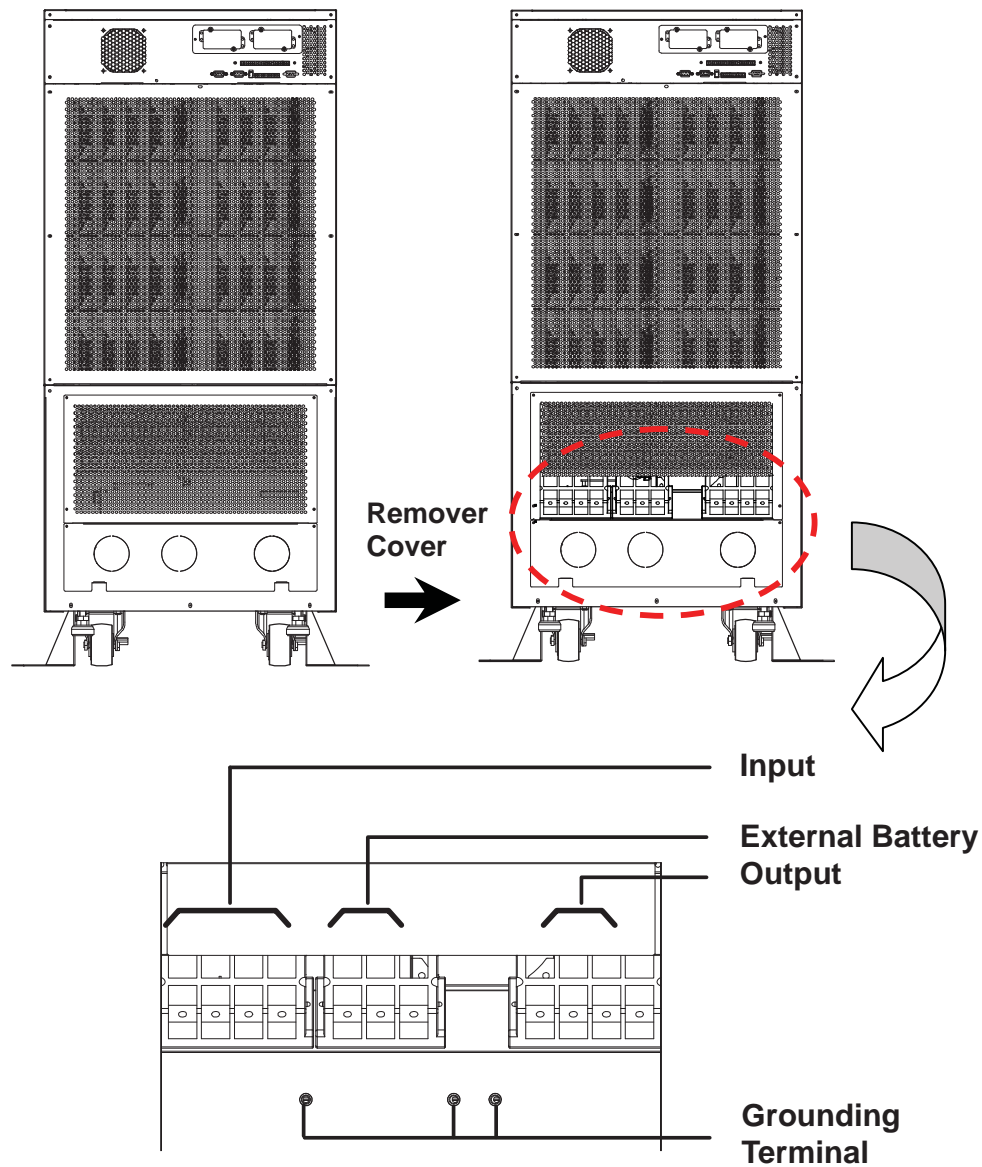

Fig. 4-3 Wiring Terminal
1. Remove the terminal cover at the rear side. See Fig. 4-3.
9. Connect all cables to the right terminal or location as indicated. (Refer to Fig. 4-3).
5. Connect all cables to the right terminal or location as indicated (Refer to Fig. 4-3).